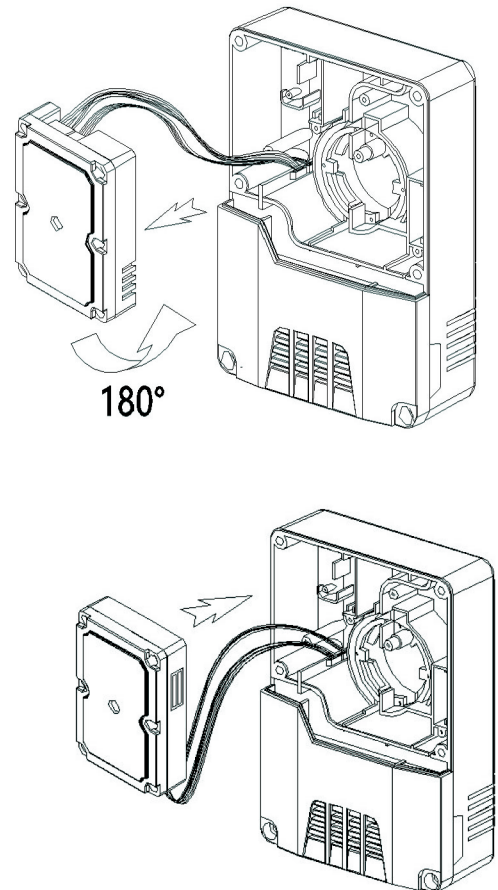

Fig. 12.
3. Remove the sensor module from the sealed cabin with the cable and rotate the module 180 degrees (see top image in Fig. 12). Install the module back to the original position (see the bottom image in Fig. 12).